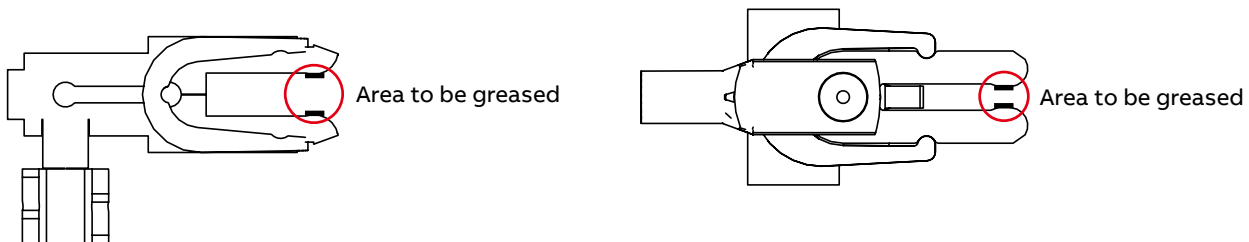

Figure 7-01 Power contacts for withdrawable modules size 8E/4 and 8E/2 (left) size 4E to 24E (right)
- For contact areas to be greased, see Figure 7-01